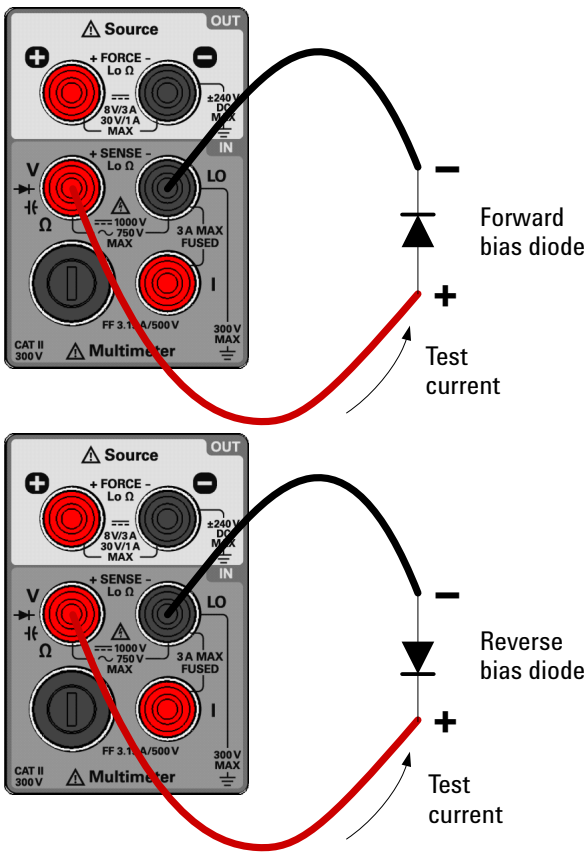

Figure 2-9 Terminal connections for diode tests
- 3 Connect the other end of the red test lead to the positive terminal (anode) of the diode and the black test lead to the negative terminal (cathode). Refer to **Figure 2-9 on page 51**.
- 5 Reverse the probes and measure the voltage across the diode again (refer to **Figure 2-9 on page 51**). Assess the diode according to the following guidelines: